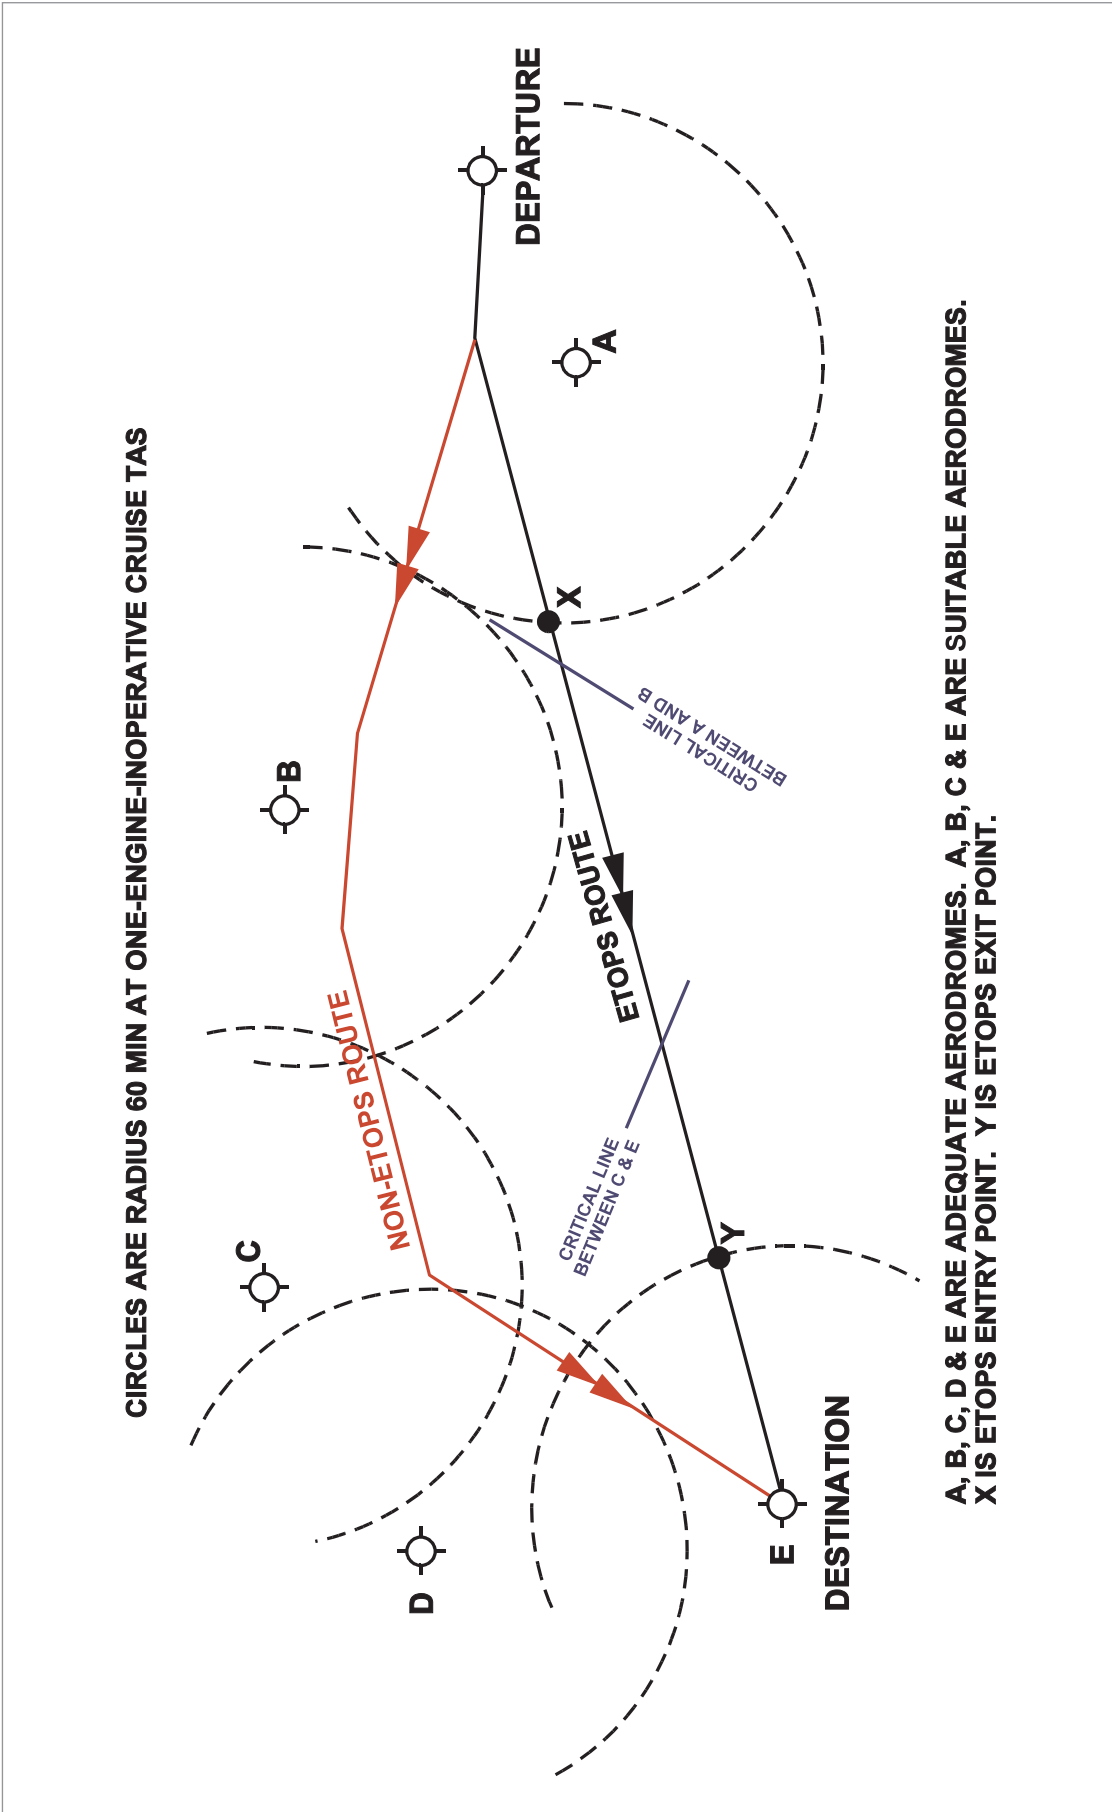

Figure 8.2 ETP for ETOPS
*Figure 8.2* shows how the most critical point (CP/ETP), i.e. the one based upon the two alternates furthest along track, is derived. It is based upon the Critical Line between airfields at C and E which is found by extending the bisector of the line between C and E to cut the ETOPS track.